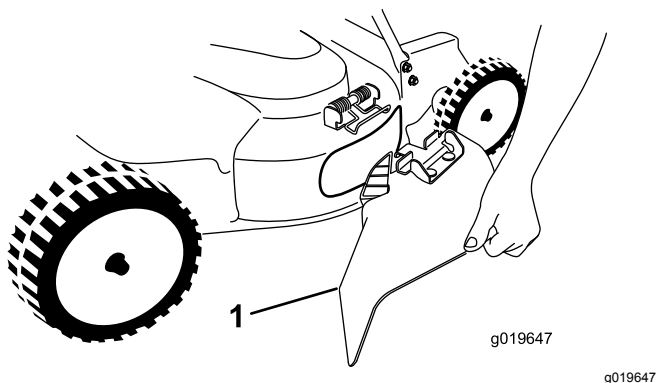

Figure 25
5. Install the side-discharge chute (Figure 25) by pulling up on the spring, placing the chute over the opening, and lowering the spring over the taps on the top of the discharge chute.